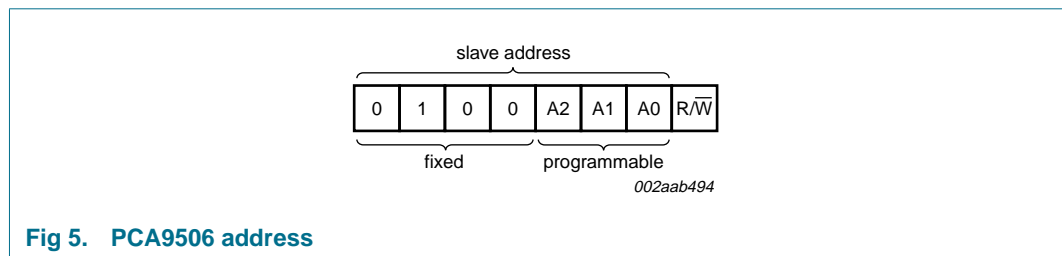

Fig 5. PCA9506 address
Following a START condition, the bus master must send the address of the slave it is accessing and the operation it wants to perform (read or write). The address of the PCA9506 is shown in Figure 5. Slave address pins A2, A1, and A0 choose 1 of 8 slave addresses and need to be connected to V_{DD} (1) or V_{SS} (0). To conserve power, no internal pull-up resistors are incorporated on A2, A1, and A0.